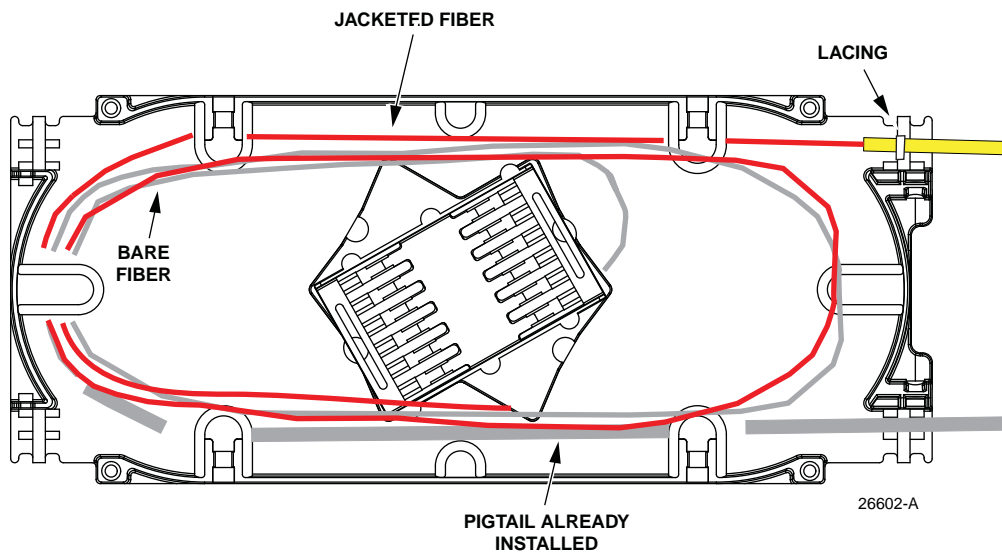
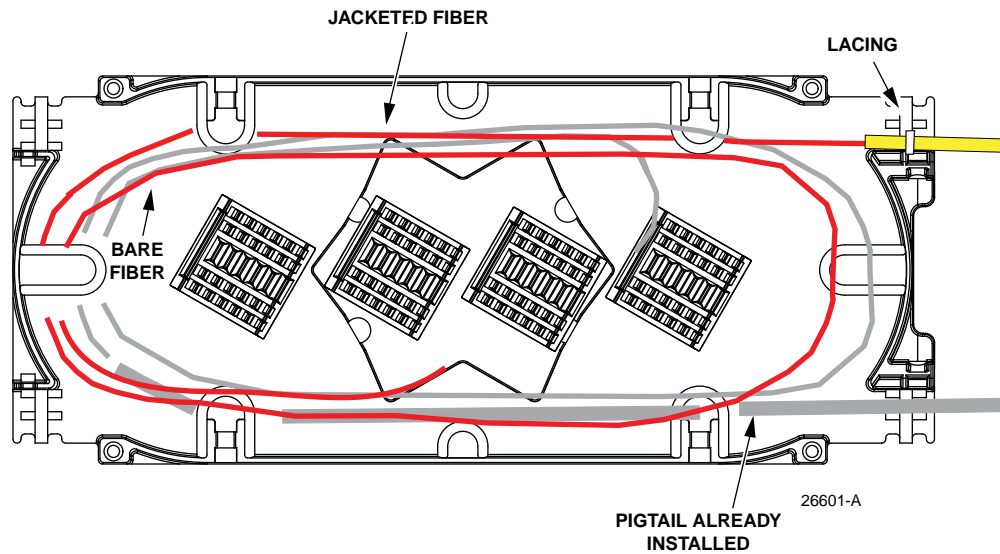

Figure 30. Ribbon IFC/OSP Fiber Splice Tray Routing
Figure 31. Stranded IFC/OSP Fiber Splice Tray Routing
6. If splicing at the present time, follow local practice to complete the splices. Route the IFC/OSP fibers within the splice tray as shown in Figure 30 for ribbon Figure 31 for stranded fiber